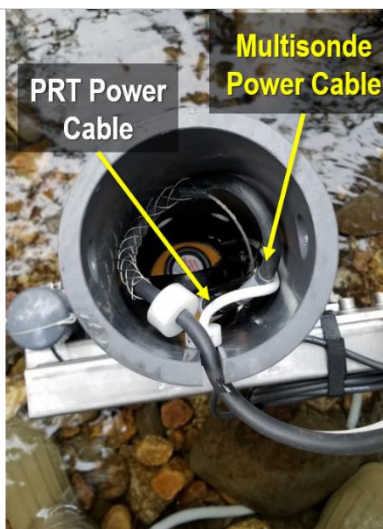

Figure 49. Disconnect the Black Power Cable
**STEP 2.2** | Disconnect the black power cable from the Multisonde 6-pin bulkhead connector (Figure 49). (The white cable is the power cable to the PRT. Do not disconnect this cable.)